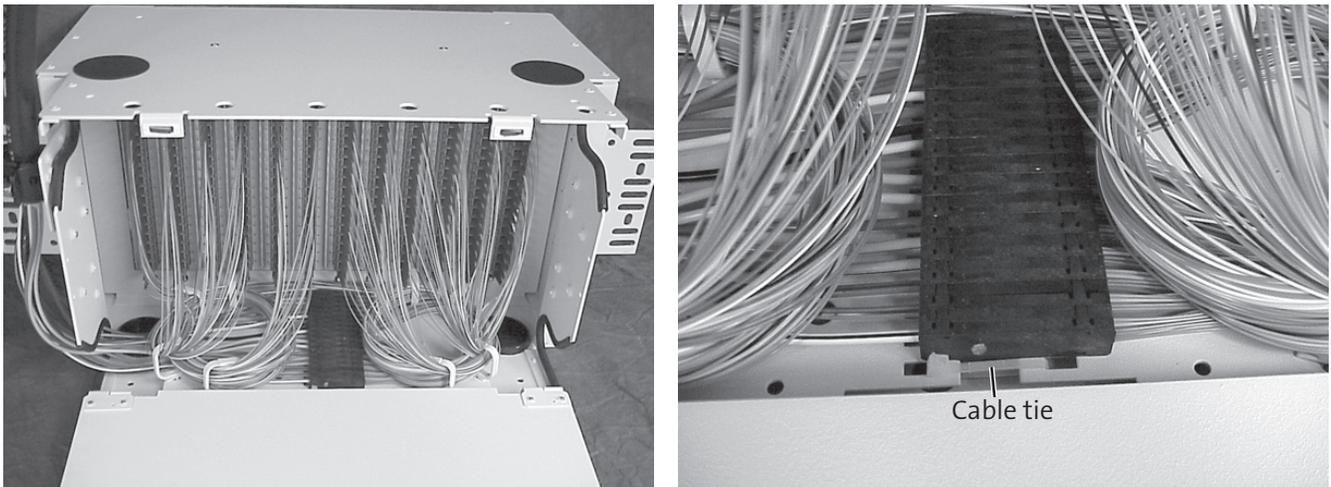

Figure 12
Step 7: If cable has fan-out bodies, place the bodies into the cut-out in the rear shelf of the unit. Secure the bodies with a cable tie (Figure 12).